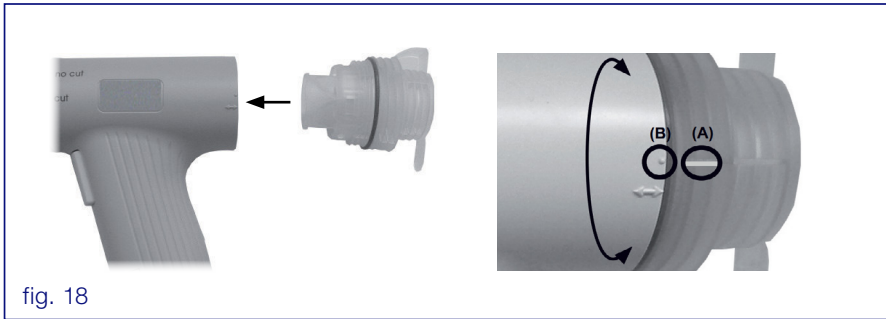

fig. 18
- Insert Valve Module (fig. 18). Screw in the Valve Module clockwise, simultaneously pressing it against the Grip Module.